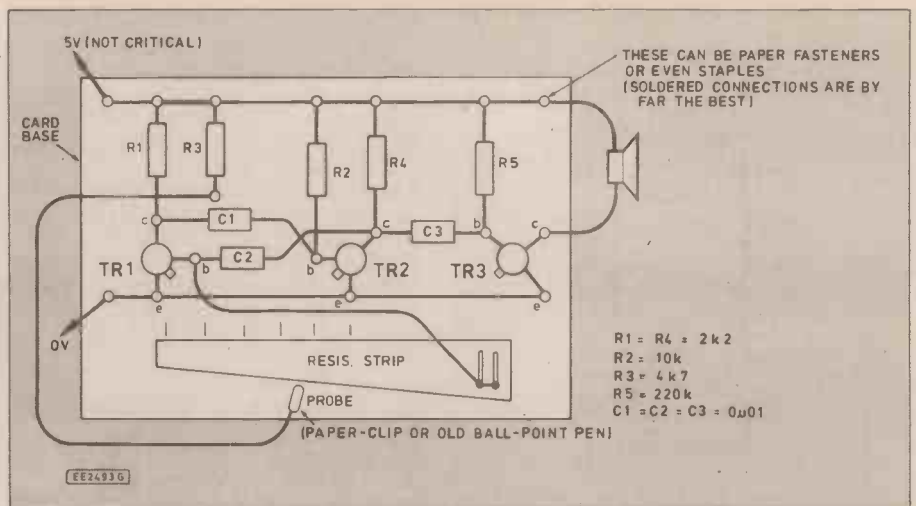

Fig. 5.6. A very mini Wurlitzer can be built on cardboard.
**T** Well, it's not really a Wurlitzer. But you'll find you can improve with practice. Try making a quick, firm contact rather than allowing the probe to "brush" over it. And try to be accurate to get the right pitch. You can mark a sort of "scale" on the supporting card. In fact, the whole thing can be built permanently on a card if you want a souvenir. (Fig. 5.6)